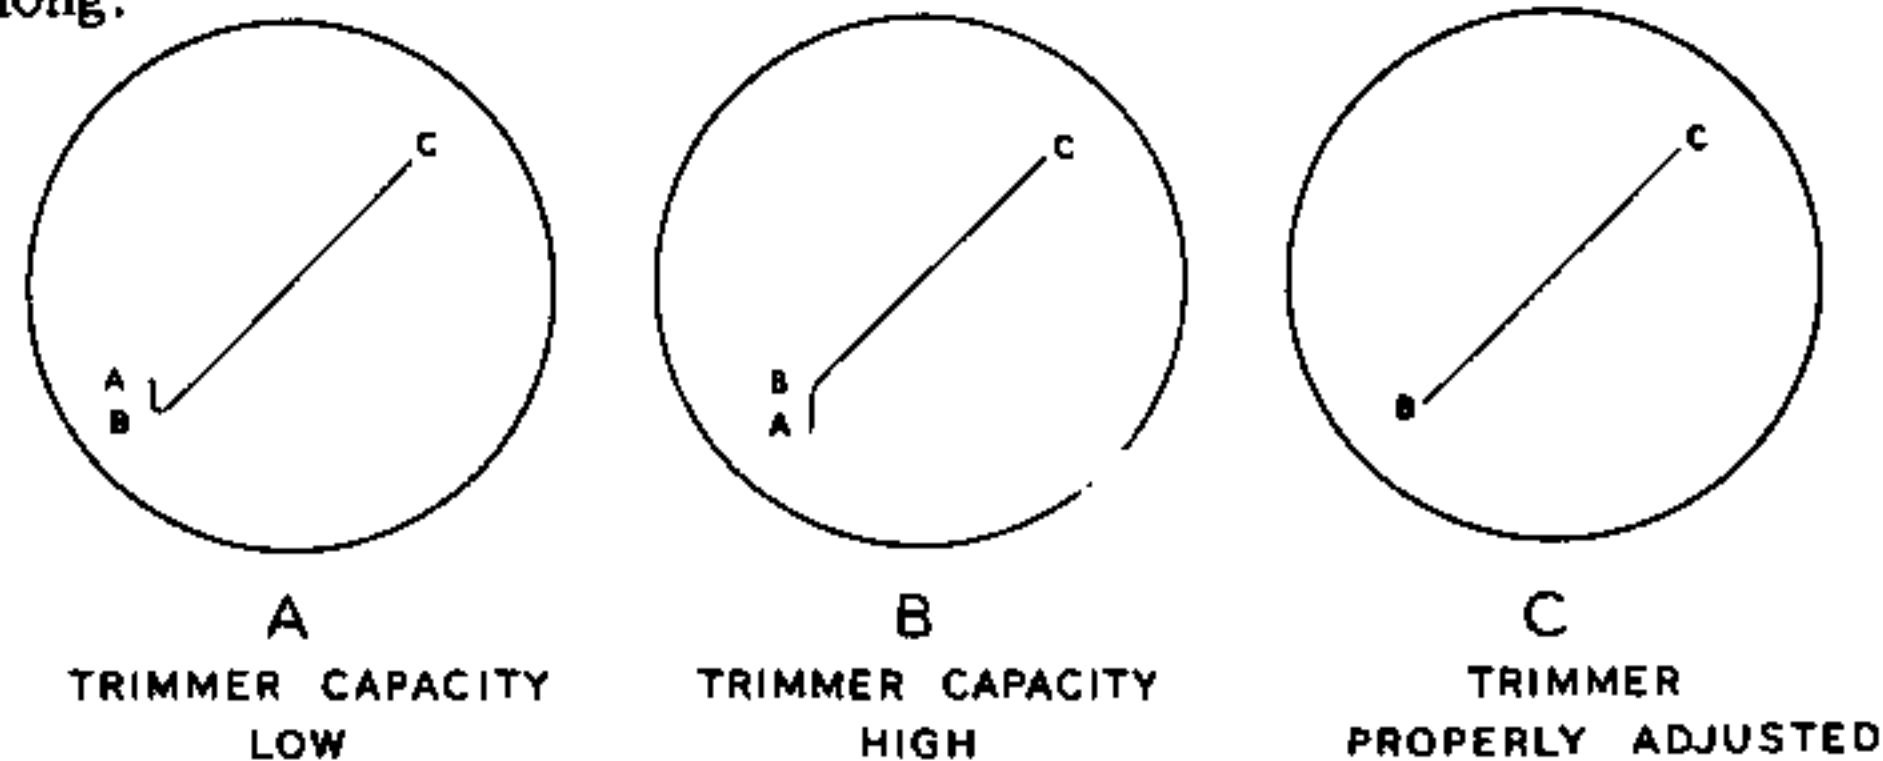

Figure 31
- () Disconnect the jumper from the 1 V. P-P terminal. Turn off the power and connect the free end of the jumper to the excess lead from "HOR. IN" on the rear circuit board. Set the FREQ. SELECTOR to the line between 1000 and 10 K and the FREQ. VERNIER to 0. Now turn on the power. You should get a trace similar to that in Figure 31 A or B. Reduce both gain control settings so that the trace is about 2" long.
5. If you are unable to obtain straight diagonal lines when adjusting the vertical trimmers, please refer to Figure 31 on Page 31 of your O-11 manual. The patterns shown there present a perfectly straight line between points B and C on the traces. Some users have raised questions on this point, stating that they cannot obtain a straight line between B and C. This is perfectly normal. The indication which is significant is that portion of the trace between A and B. The intention of the adjustment is to reduce this portion of the trace to a point at the lower end of the trace, thus indicating neither overshoot or slow rise time on the sharp wave-front of the sawtooth generated by the sweep oscillator. If the remaining portion of the line bellies up or down, a readjustment of the sweep oscillator frequency will probably locate a point where the effect is changed radically. This variation is due to minor phase shift relationships in the amplifier circuits, not to defective or improper compensating.